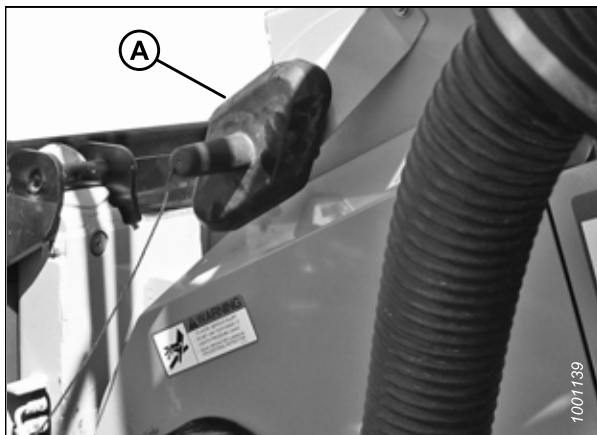

Figure 3.109: Receptacle Cover
13. Place float module receptacle cover (A) onto the combine receptacle as shown in Figure 3.109, page 96.